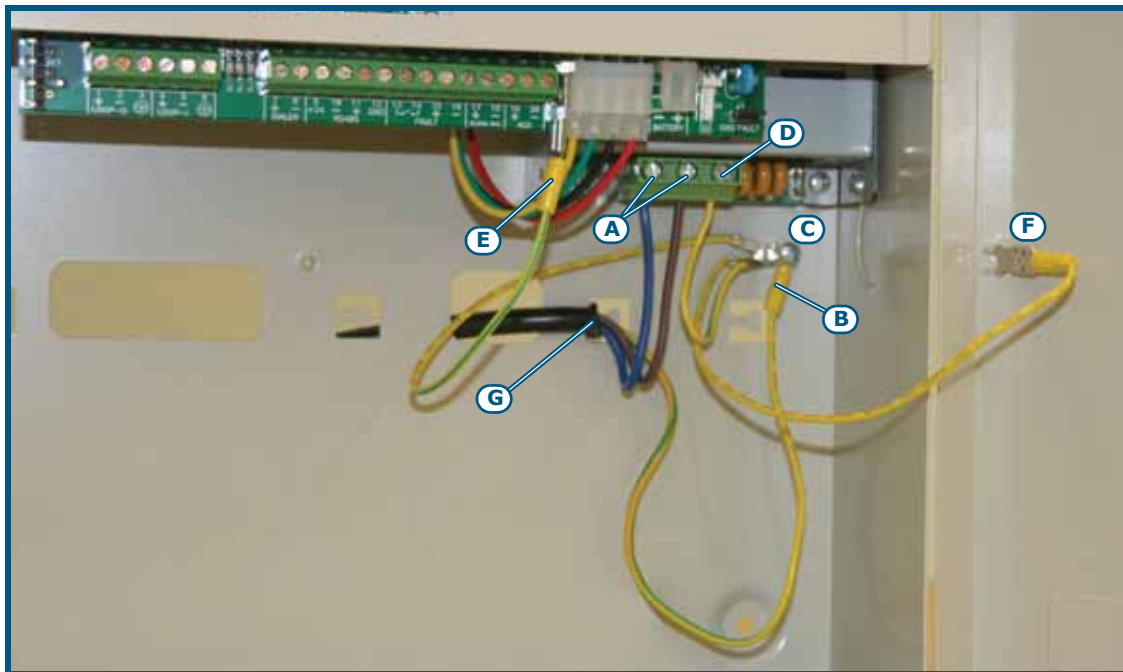

Figure 23 - Earthing system
1. Connect the mains power supply to the terminals on the power-supply module (*Figure 6 - Switching power supply, [A]* and *Figure 23 - Earthing system, [A]*).